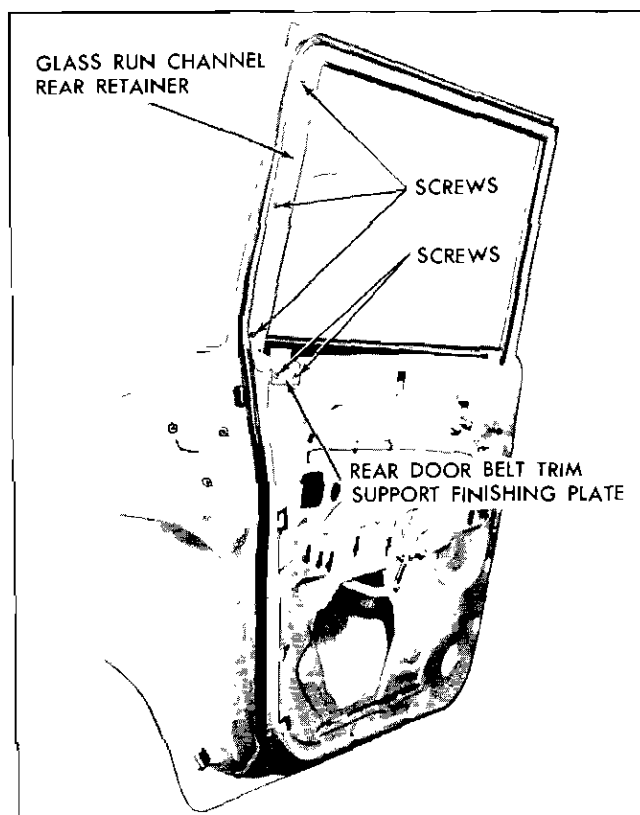

Fig. 2-41 Rear Door—Station Wagon
2. Remove rear door belt trim support finishing plate and rear door window glass run channel rear retainer (Fig. 2-41).